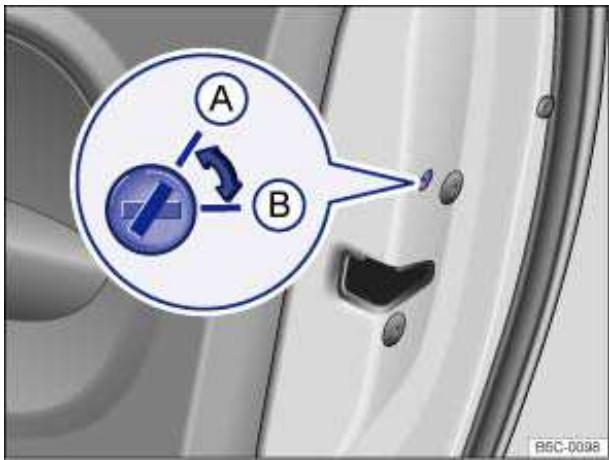

Fig. 131 On the edge of the passenger door: A unlocked,△locked.
- Insert the key bit into the slot and turn to the locked position ⇒ fig. 131 (B).